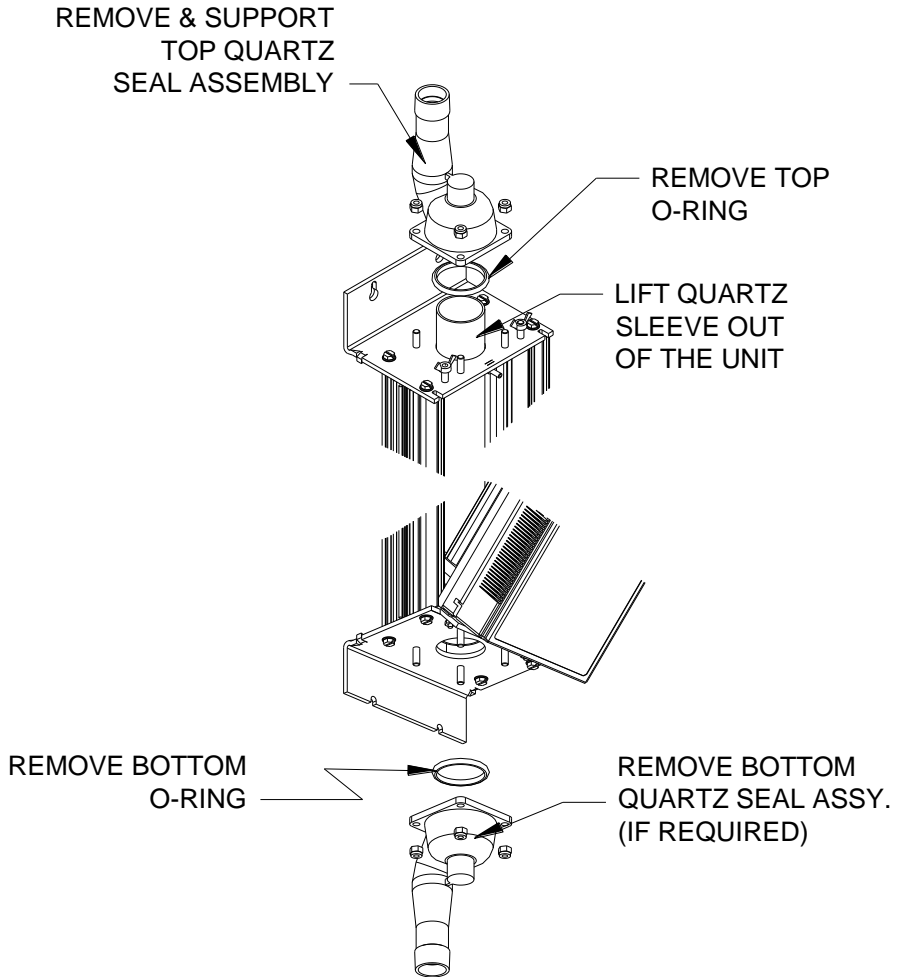

Figure 4C
**Step 5:** Remove the top quartz seal assembly (Figure 4C) by lifting it straight up.
**Step 3:** Once the quartz is clean, reassemble the system (see Figure 4C). During reassembly, replace any seals that appear to have been damaged.
**Step 4:** If the quartz is still not clean, it should be replaced. This is done by removing the bottom quartz seal assembly (see Figure 4C).